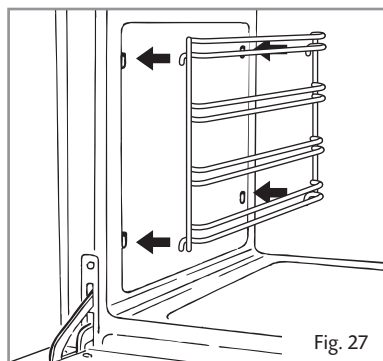

Fig. 27
- Fit the side runner frames into the holes on the side walls inside the oven (Fig. 27).